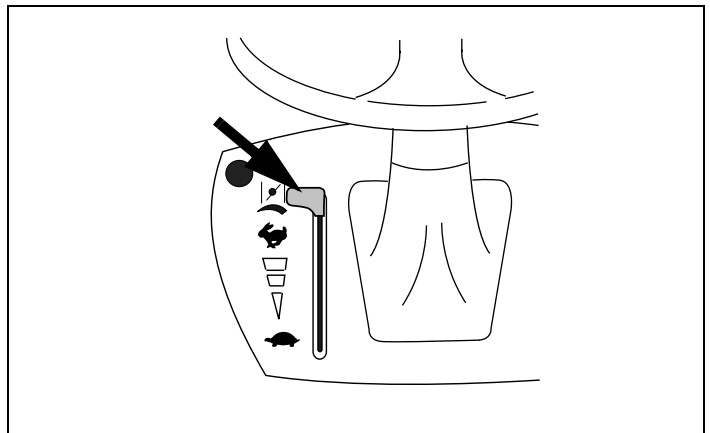

Figure 10. Combined Speed and Choke Control
2. Move combined control to “CHOKE” or “START” position, if present (see equipment manufacturer’s instructions). See Figures 10 and 11.
If restarting a warm engine after a short shutdown, move combined Control to “FAST” instead of “CHOKE” or “START” position. See Figures 10 and 11.
- e. Next, move combined control to desired speed in “RUN” range. See Figures 10 and 11.